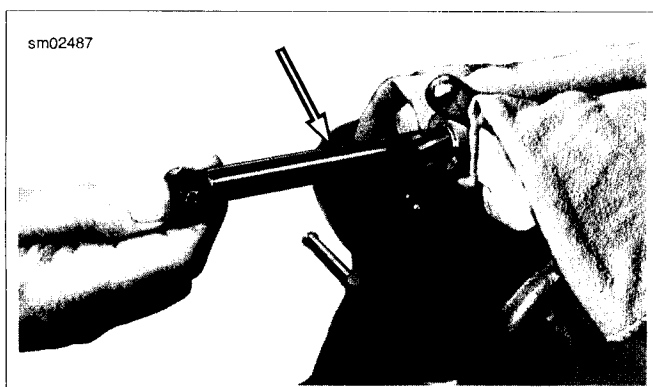

Figure 3-93. Ream Bushing
3. See Figure 3-93. Lock rocker arm in a vise using brass jaw inserts or shop towels to prevent casting damage. Insert tapered end of **ROCKER ARM BUSHING REAMER** (Part No. HD-94804-57) into old bushing in rocker arm. Note that old bushing on drive side of reamer as pilot. Rotate reamer until the **new** bushing on the far side is reamed, and then continuing in the same direction, draw drive side of reamer from **new** bushing.